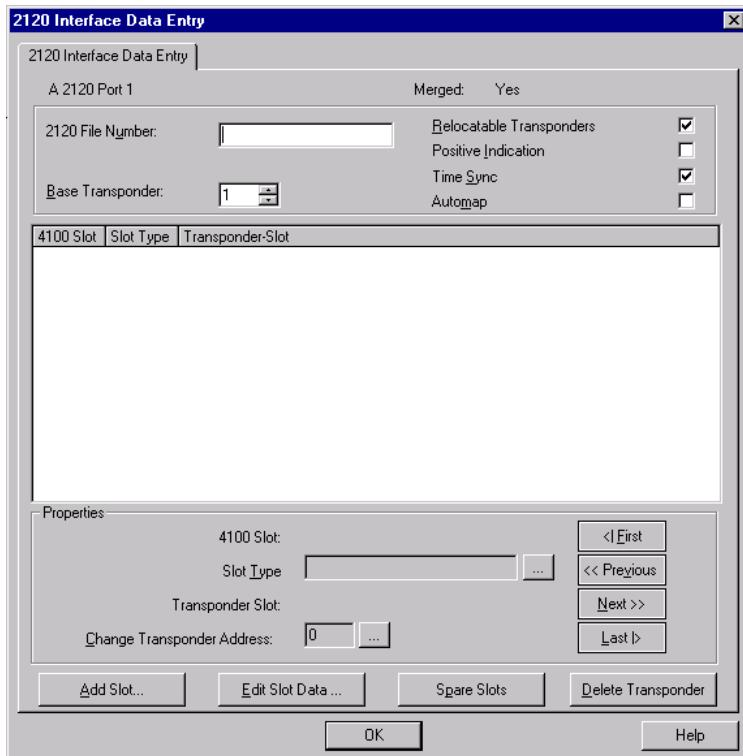
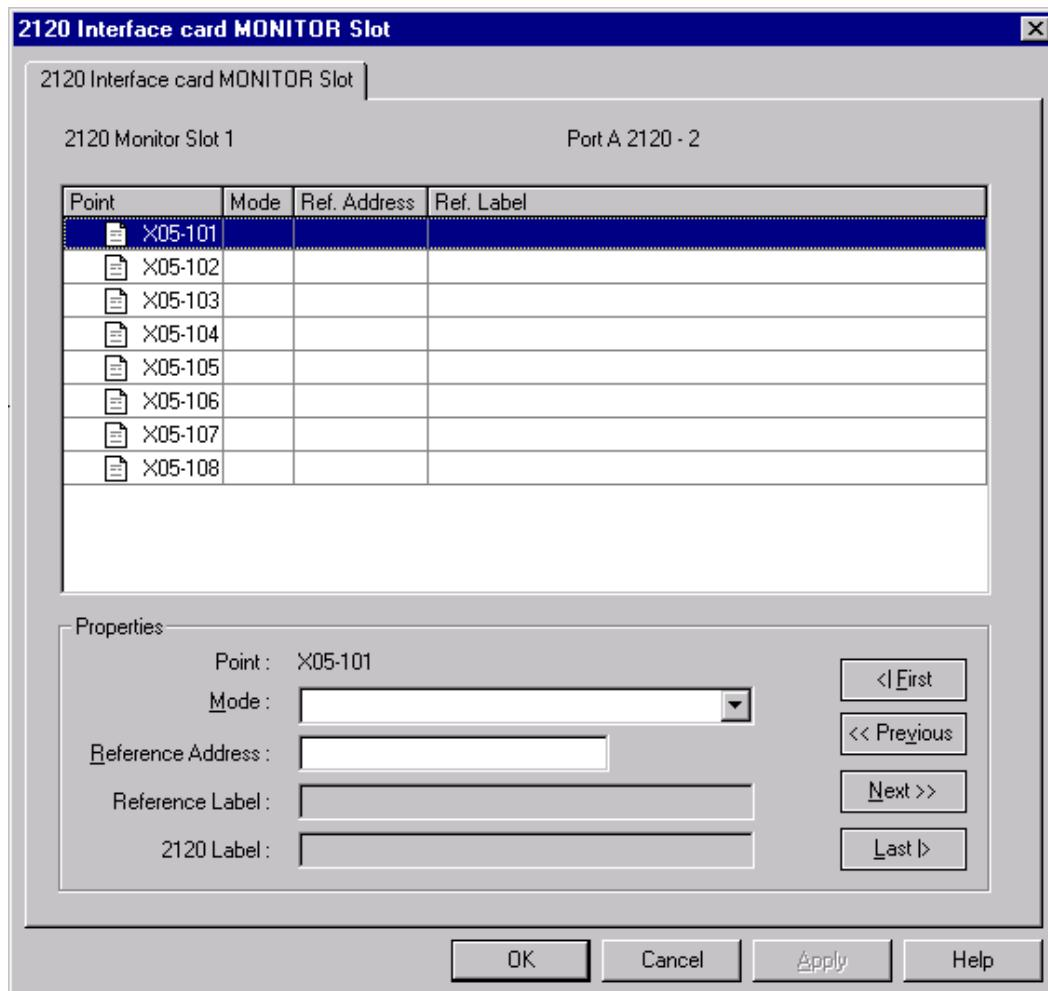

Figure 6-18. Port Data Screen, 2120 Interface
Figure 6-19. Editing Monitor Slot Data
1. Click on the Add Slot button. Refer to Figure 6-18 for the location of this button. A dialog similar to the following appears.
1. In the 2120 Interface Data Entry screen (Figure 6-18), click on the slot whose data you want to define and then click on the **Edit Slot Data** button. A screen similar to the one shown in Figure 6-19 appears.
1. In the 2120 Interface Data Entry screen (Figure 6-18), click on the control slot whose data you want to define and then click on the **Edit Slot Data** button. A screen similar to the one shown in Figure 6-19 appears.